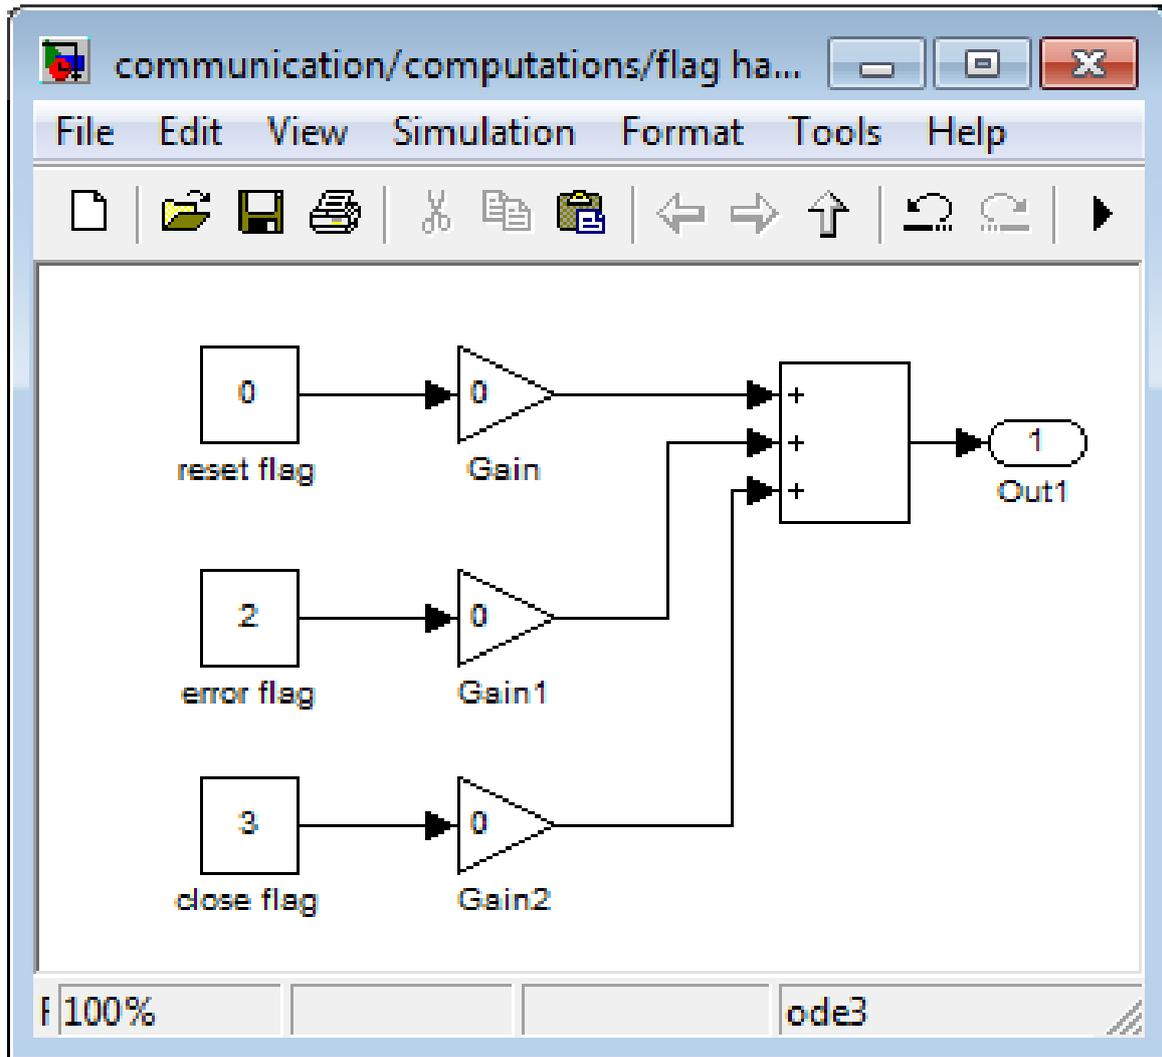

Figure 3.53: TCP/IP subsystem “flag handling out”
(6) Open the subsystem “flag handling out”, see figure 3.53. In default no handling flags are transmitted to HOTINT.